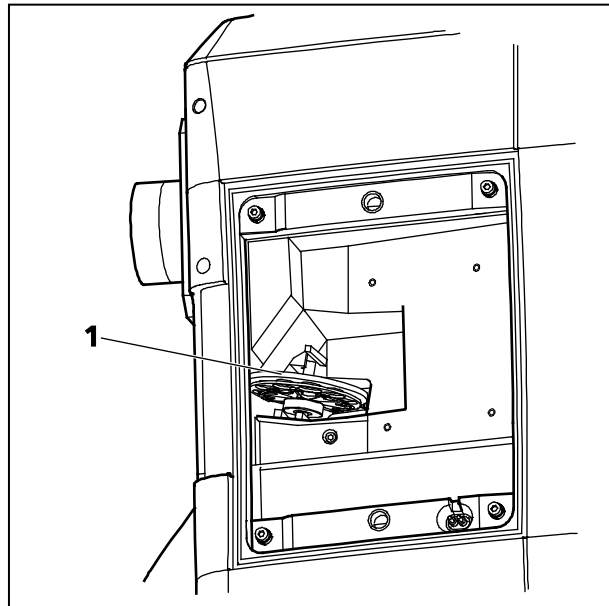

Fig. 4 LSM 710 / LSM 780 filter wheel
- Turn the filter wheel (Fig. 4/1) until the free position points upwards. Do not touch the filters!